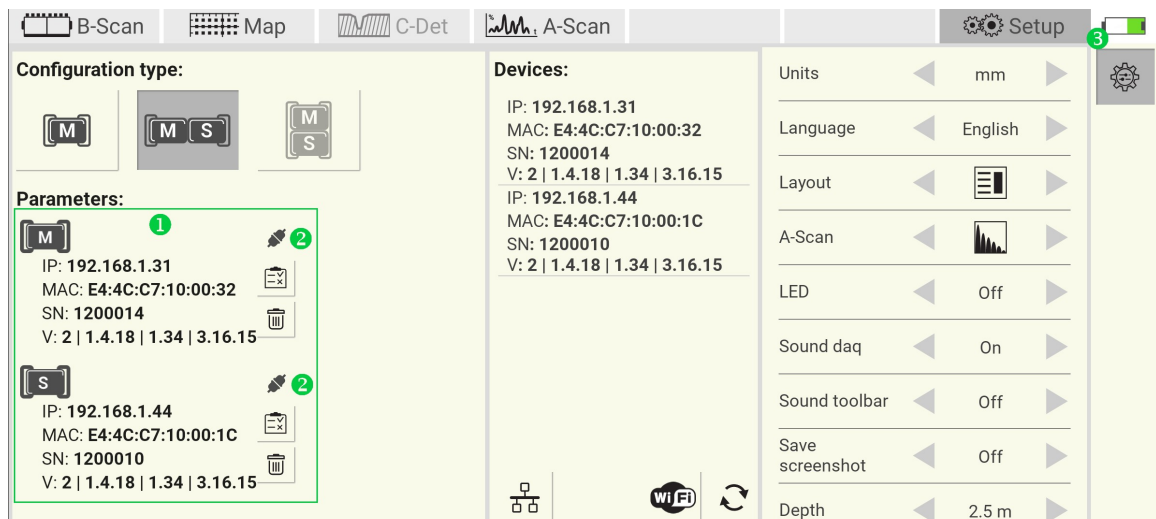

Figure 25: A1040 MIRA 3D PRO connection
After successful connection the panel ① shows parameters of the master and the slave devices. The indicators ② change from to . The battery indicator ③ changes its status from disconnected to power, Figure 25.